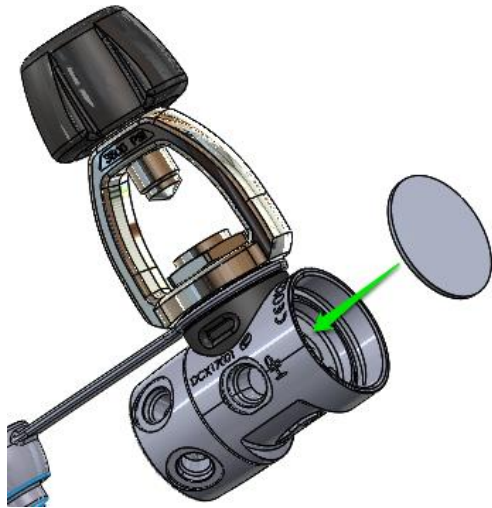

Fig. 40
- b. Position the diaphragm 01.000031 flat, directly over the opening of the body 01.000164.8. Gently push the edges of the diaphragm 01.000031 down inside the internal threads of the body 01.000164.8, one thread at a time. Rotate the body 01.000164.8 while doing this to facilitate an even seating of the diaphragm 01.000031. Closely inspect it to ensure it is well seated at the base of the threads (Fig. 40).